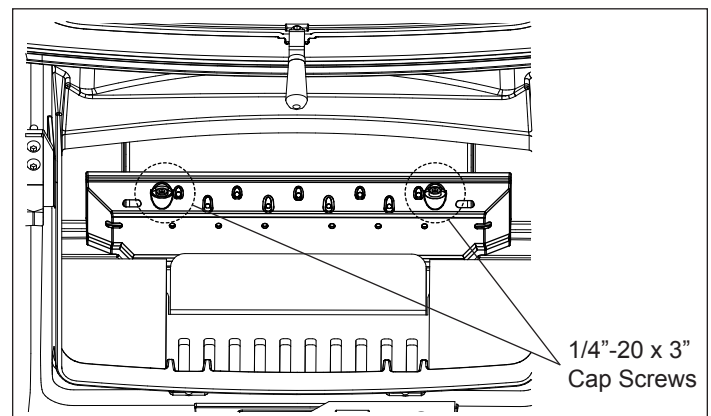

Figure 4
4. Remove (2) 1/4"-20 x 3" cap screws and remove the shoe brick. Figure 4.